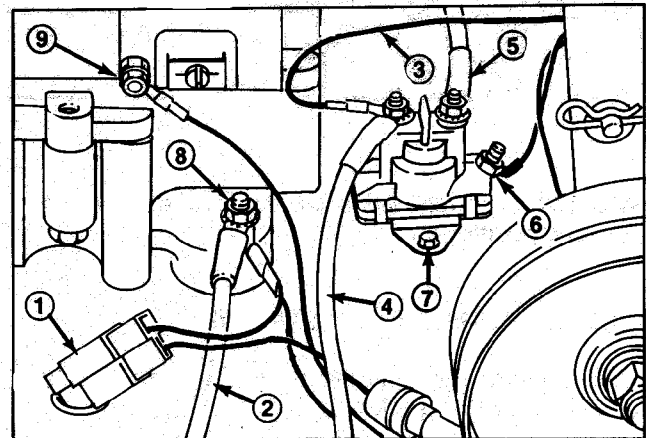

Figure 5
1. Remove left rear engine mounting bolt. Install new bolt and torque mounting nut to 170-200 in.-lb (Fig. 5).
2. With small stud terminal of solenoid positioned to the rear, mount solenoid to frame with (2) self tapping screws (Fig. 5).
3. Connect male and female clutch connectors (Fig. 5).
4. Install ring terminal from clutch connector harness wires (black) and negative (-) battery cable (black) to left rear engine mounting bolt and secure with locknut (Fig. 5).
5. Install small ring terminal wire (red) to small stud terminal of solenoid and secure with hex nut (Fig. 5).
6. Install ring terminal from harness (orange) and positive (+) battery cable (red) to large forward post of solenoid and secure with locknut (Fig. 5).
7. Install ring terminal from starter to solenoid wire over remaining large solenoid post and secure with locknut (Fig. 5). Connect opposite end to starter terminal and secure with locknut.
8. Cut the spade type connector off the end of the black/white harness wire. Trim approximately 3/8" insulation from the end and insert the end into the ring terminal supplied with the kit. Crimp the connector to secure it to the wire and install the connector to the terminal on the governor plate (Fig. 5).